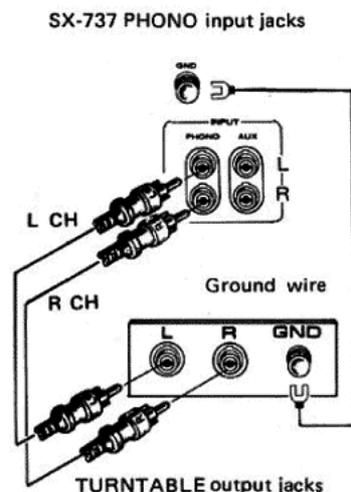

Fig. 7 - Connecting the SX-737 to turntable.
A stereo turntable with a moving magnetic (MM) cartridge can be connected to the PHONO input jacks (Fig. 7).